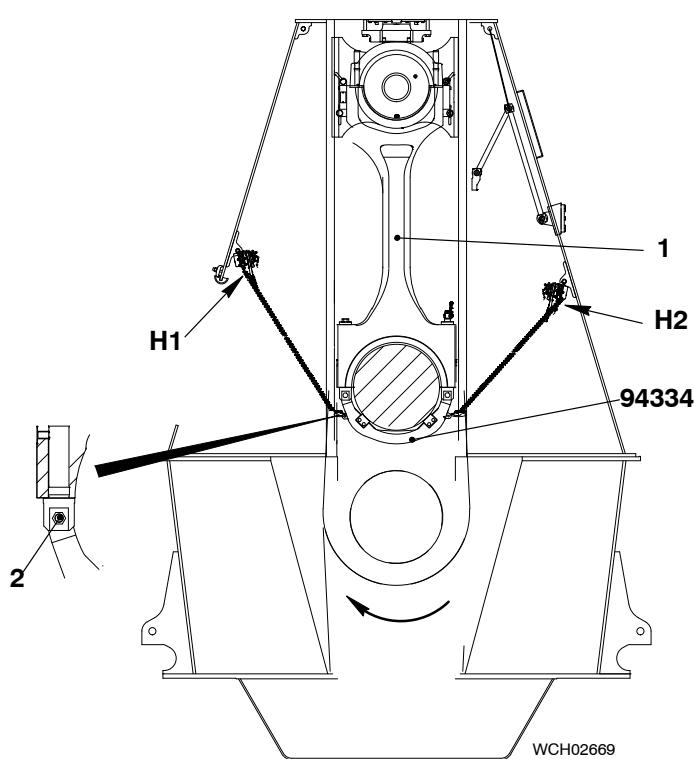
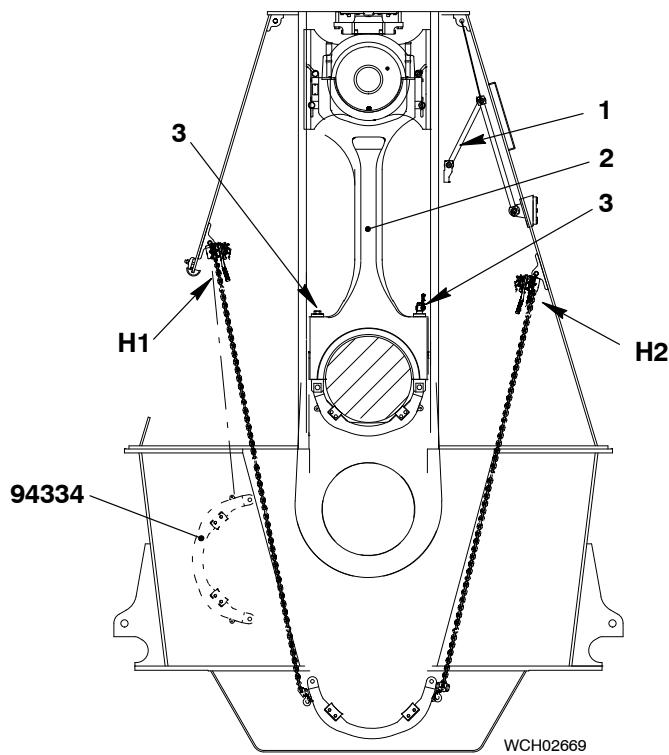

Fig. 19
Fig. 20
- 38) Use the turning gear to move the connecting rod (1, Fig. 19) clockwise to TDC.
- 41) Remove the two nuts and bolts (2) from the plate (94334).
- 42) Operate the manual ratchets (H1 and H2, Fig. 20) to lower the plate (94334).
- 45) Connect the toggle lever (1) to the connection piece on the connecting rod (2).
- 46) Remove the rods (3) from the connecting rod (2).